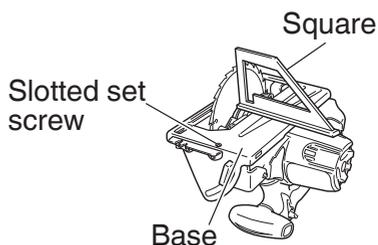

Fig. 30
- (1) Turn the base face up (**Fig. 30**) and loosen the wing-bolt.
- (2) Apply a square to the base and the saw blade and turning the slotted set screw with a slotted-head screwdriver, shift the position of the base to produce the desired right angle.